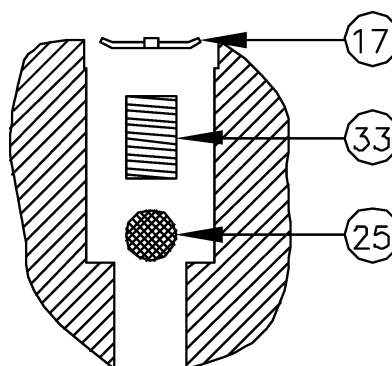

FIGURE 14
9. Use a new retaining ring 17 to secure balls and springs (see Figure 14).
NOTE: Retaining ring 17 should face with the concave side away from the spring (see Figure 14).
1. Follow steps 1 through 4 of SERVICE OF INLET AND OUTLET BALL VALVES (see Figure 14).